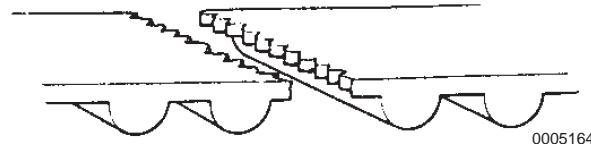

Figure 5-166
- Breaking or parting at the joints (**Figure 5-166**).